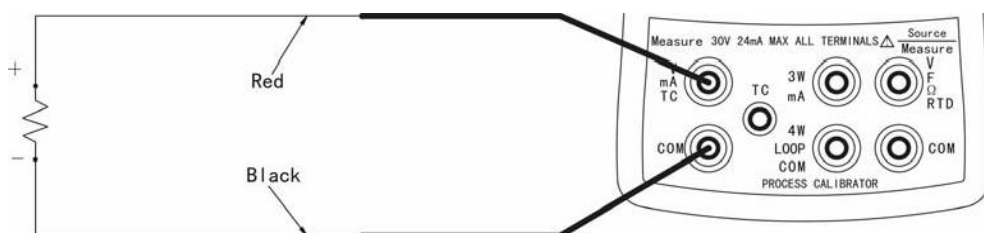

Figure5-2 Measuring Current (Upper Display)
- (1) Press  until the upper display shows "MEASURE".
- (2) Connect the test leads as shown in Figure5-2.